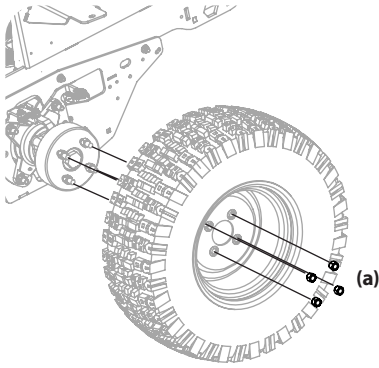

Figure 4-14
1. Remove the four lug nuts (a) to remove the tire. See Figure 4-14.
2. Reinstall the tire using the four lug nuts. See Figure 4-14. Torque the lug nuts (a) to 65-70 ft-lbs.